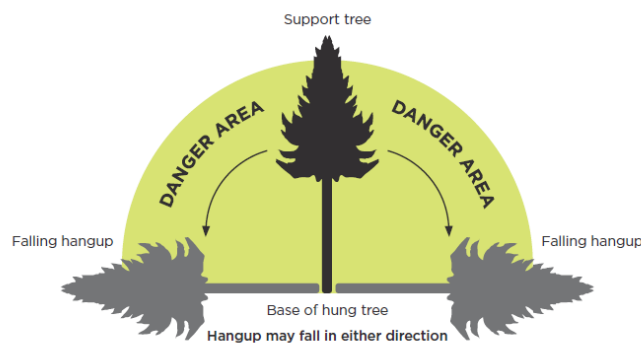

Figure 24: Danger area when felling a hung-up tree
- 21.10.2 Figure 24 shows the danger area when felling a hung-up tree.